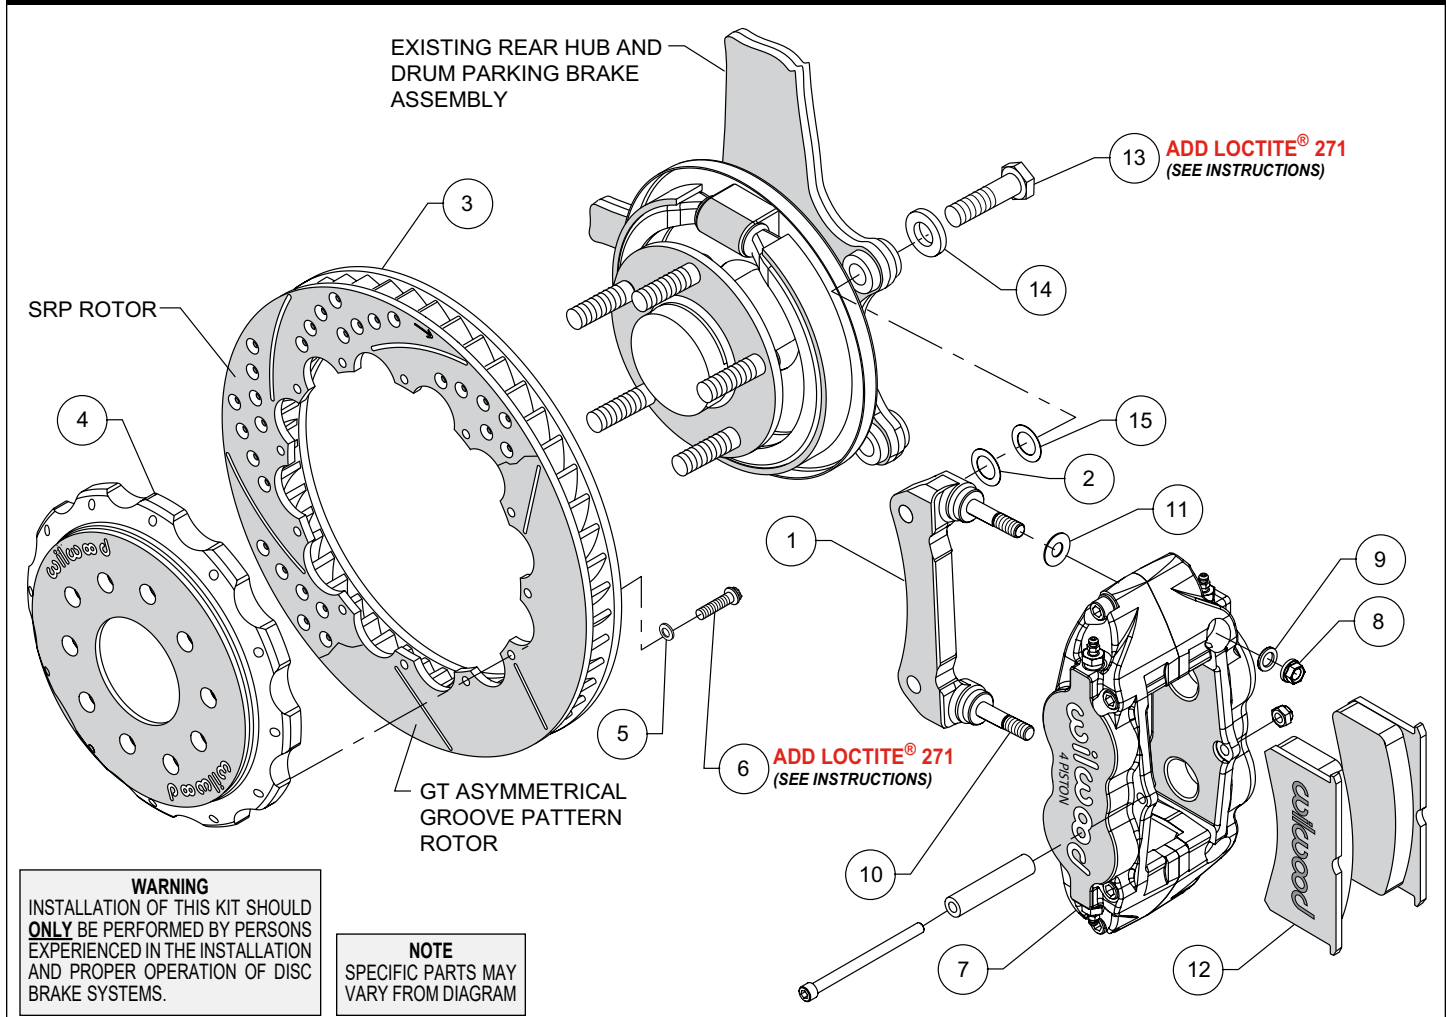
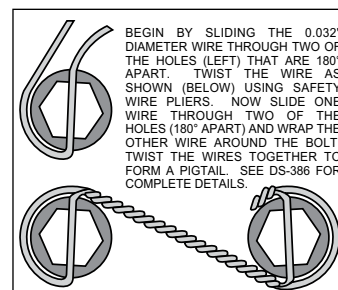

Figure 1. Typical Installation Configuration
Figure 3. Safety Wire Diagram
NOTE: Numbers in parenthesis refer to the parts list and Figure 1 on the preceding pages.
- The caliper mount bracket (1) should initially be installed with clean, dry threads on the mounting bolts. Orient the bracket, as shown in Figure 1 and install using bolts (13) and washers (14). Initially place one .029" thick shim (15) on each bolt between the bracket and upright, Figure 1. Temporarily tighten the mounting bolts. **NOTE:** The bracket must fit squarely against the mount bosses on the upright. Inspect for interference from casting irregularities, machining ridges, burrs, etc. Later, after the caliper alignment has been checked, the mount bolts will be secured using red *Loctite*® 271.
- Orient the rotor (3) and the hat (4) as shown in Figure 1 and Photo 1. Attach rotor to hat using bolts (6) and washers (5). Apply red *Loctite*® 271 to the bolt threads and torque to 155 in-lb using a criss-cross pattern. For an added measure of security, the bolts may be safety wired using standard 0.032 inch diameter stainless steel safety wire as shown in Figure 3. Refer to Wilwood's data sheet DS-386 (available at www.wilwood.com/Pdf/DataSheets/ds386.pdf) for complete safety wire installation instructions.
- Initially place one .035" thick shim (11), on each stud (10) as shown in Figure 1 and Photo 2. Mount the caliper (7) onto the bracket (1) using lock nuts (8) and washers (9), Figure 1. Temporarily tighten the lock nuts and view the rotor through the top opening of the caliper. The rotor should be centered in the caliper, Photo 3. If not, adjust by adding or subtracting shims (2 and/or 15) between the bracket and the upright. Always use the same amount of shims on each of the two mounting bolts. Once the caliper alignment is correct, remove the bracket mounting bolts (13) one at a time, apply red *Loctite*® 271 to the threads, and torque to 77 ft-lb.